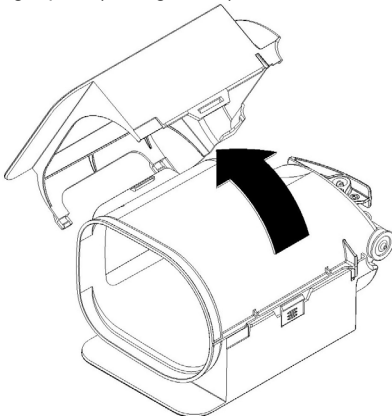

figure 10
- 2 Remove the left part of the cover and then the right part. (see figure 10).